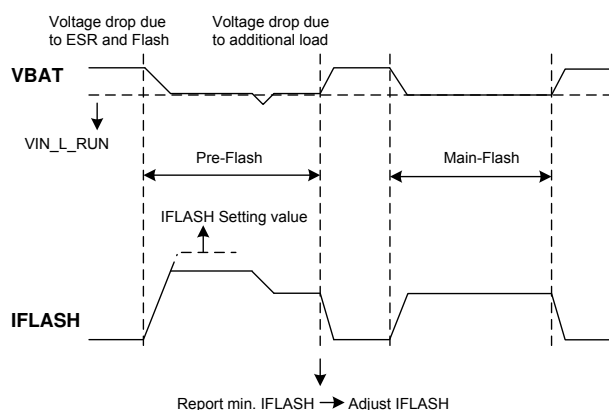

Figure 15: Pre-Flash Operation
- Before the flash, if VBL_SD = 1 and the input voltage is lower than the threshold set by VBL_RUN, the device remains disabled and sets the fault bit FT_VBATL to 1 (see Figure 15). Conversely, if VBL_SD = 0, the device ramps up to the current set by I_TX and sets the fault bit FT_VBATL to 1. The fault bit is cleared after it is read back or the input power is reset.